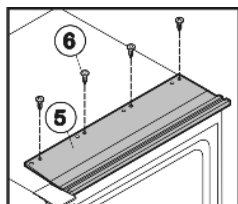

Fig. 37
- Screw on upper installation contour Fig. 37 (5) through the pre-cut holes using four screws Fig. 37 (6).